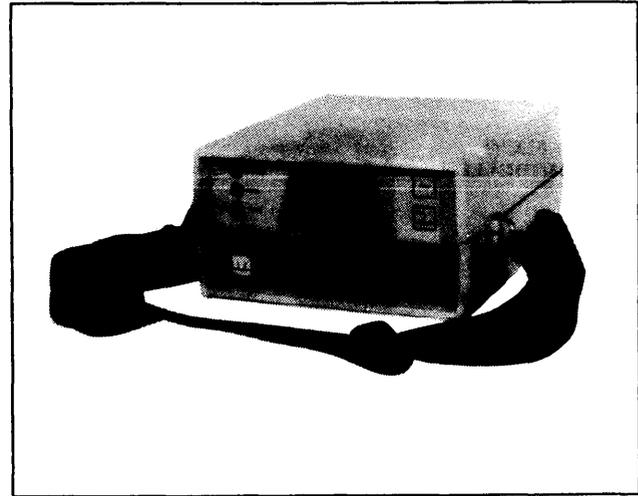

Fig.1 - Model 1820A
1.1 This practice describes the Mark Products Model 1820A Helium Detector, along with procedures and equipment needed for locating leaks using helium in buried or underground pressurized cable plant. The process is described in this practice as "heliumization" of pressurized cable plant (Fig. 1).
- (a) Model 1820A Helium Detector (Fig.1)